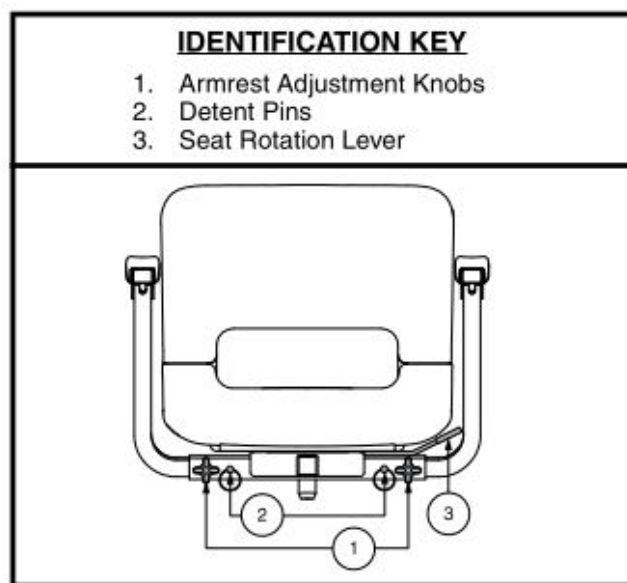

Figure 9.1
The seat rotation lever, located on the right side of the seat base, secures the seat into several positions. Figure 9.1
1. Loosen the armrest adjustment knobs. See Figure 9.1